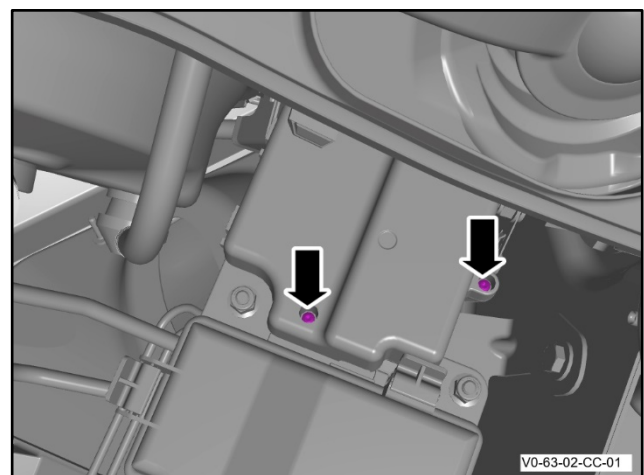

Figure 1
3. Remove the two screws that attach the cover to the fuse box (refer to Figure 1).